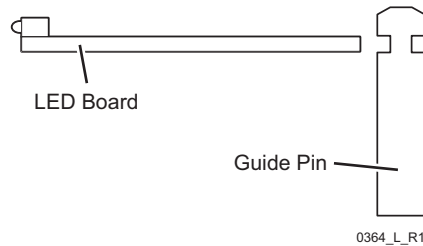

Figure 10-2. Aligning LED Board with Guide Pin
- 2 Carefully insert the LED board into the card connector (Figure 10-2).